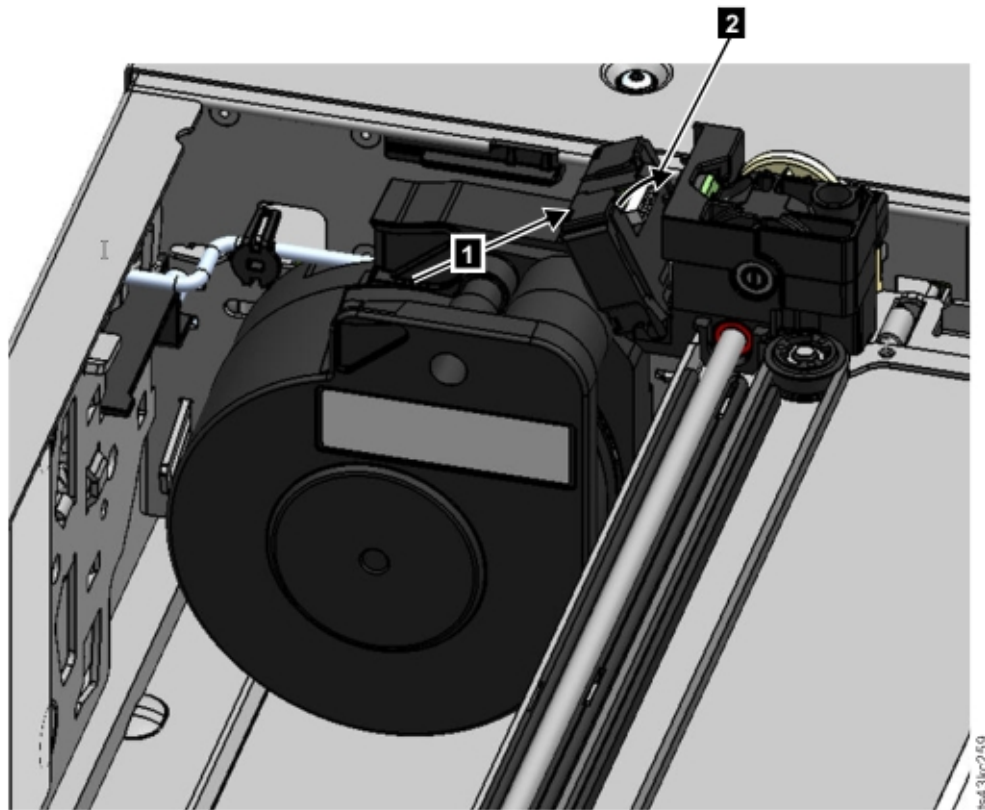

Figure 76. Installing the spooling cable
5. Place the spooling cable into the grooves where it attaches to the accessor and rotate it until it snaps into place. See Figure 76 on page 136.